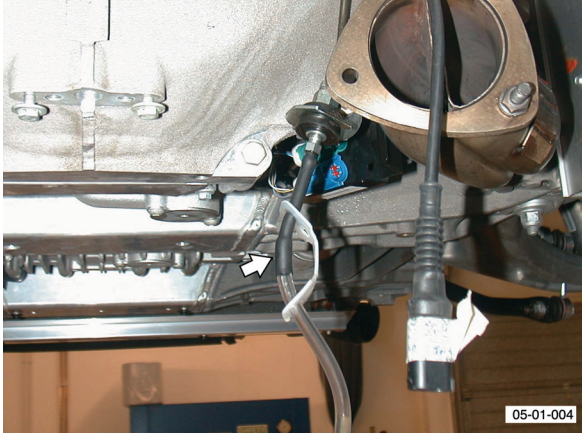

Fig. 3
8. **Manual Only** - Open clutch hydraulics bleed nipple and with suitable container below, press clutch pedal fully and retain pedal in that position. Tighten bleed nipple (see Fig. 3).